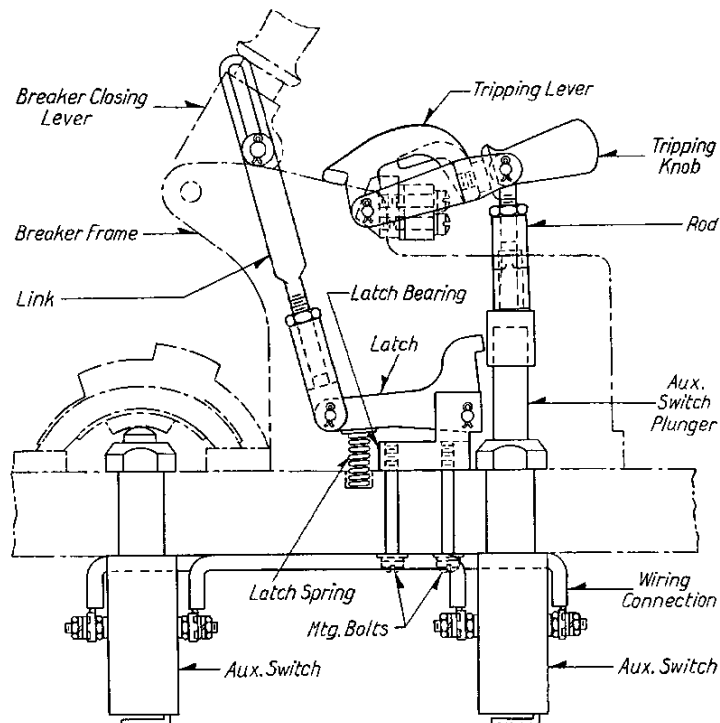

FIG. 21—BELL ALARM WHEN BREAKER TRIPS FROM OVERLOAD
**Bell Alarm When Breaker Trips From Overload (Fig. 21)**—By the ringing of a bell or by a signal lamp, this device is used to indicate which breaker tripped from overload.